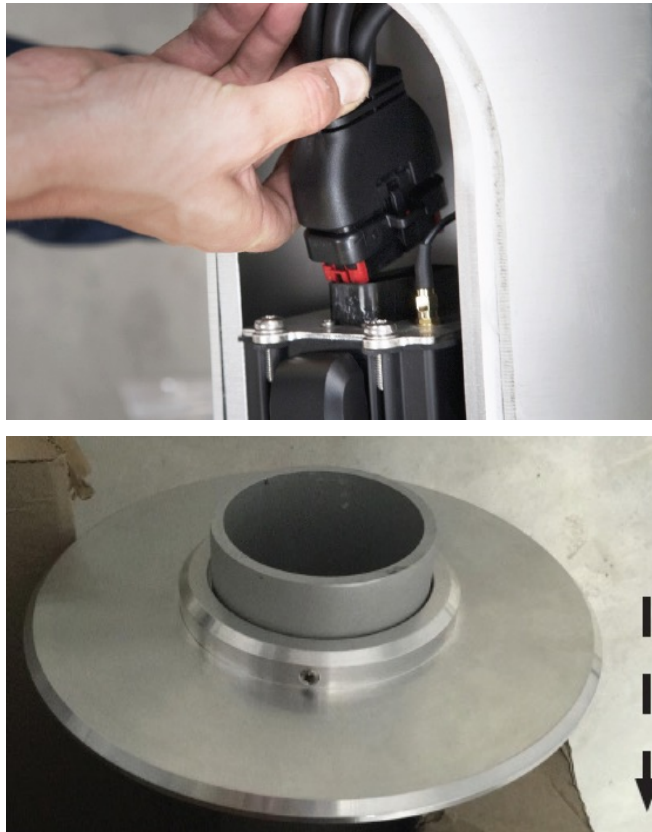

Fig. 12.1-8: Breakout Cable Connection to Control Unit
9. Route all cables inside of the hand hole of the pole such that a drip loop is formed (refer to Figure 12.1-8).